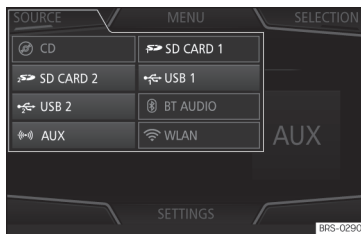

Fig. 197 MEDIA mode: change media source.
- **OR:** From the *Media* main menu, press the **SOURCE** function button  **Fig. 197** and select the desired media source.